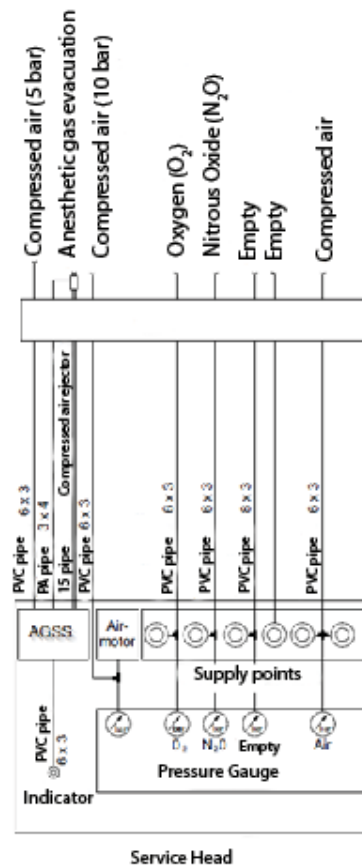

Fig. 45 Example of connection of gas hoses and anaesthesia gas evacuation systems
- Ensure that the cables, hoses and conduits are assigned to the correct supply outlet points. See diagram in figure 45.